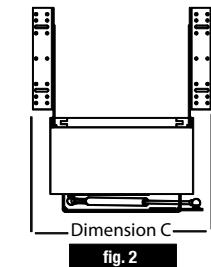

fig. 2
Step 4. Re-install door mount brackets as shown in figure 2. Measure outside to outside dimension of door brackets. This is Dimension C.